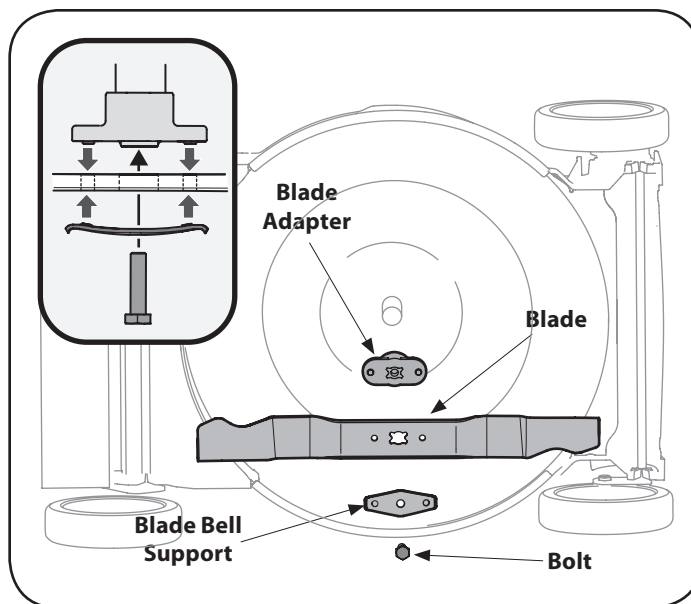

Figure 20
2. Remove the bolt and the blade bell support which hold the blade and the blade adapter to the engine crankshaft. See Figure 20.